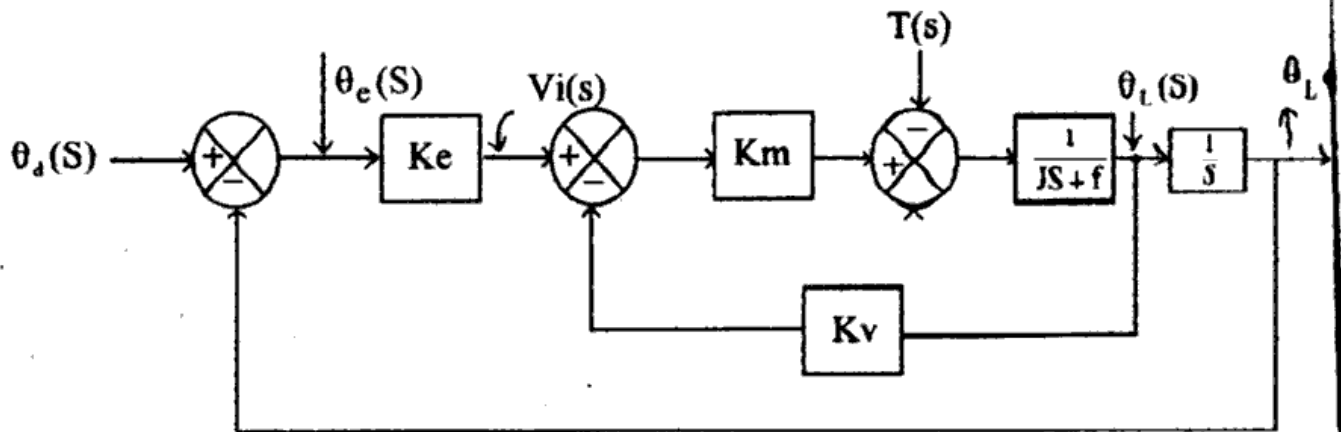

Fig. 3.
- Q.3. The block diagram of a Robot Joint Control is shown in fig.3. Various control parameters are -